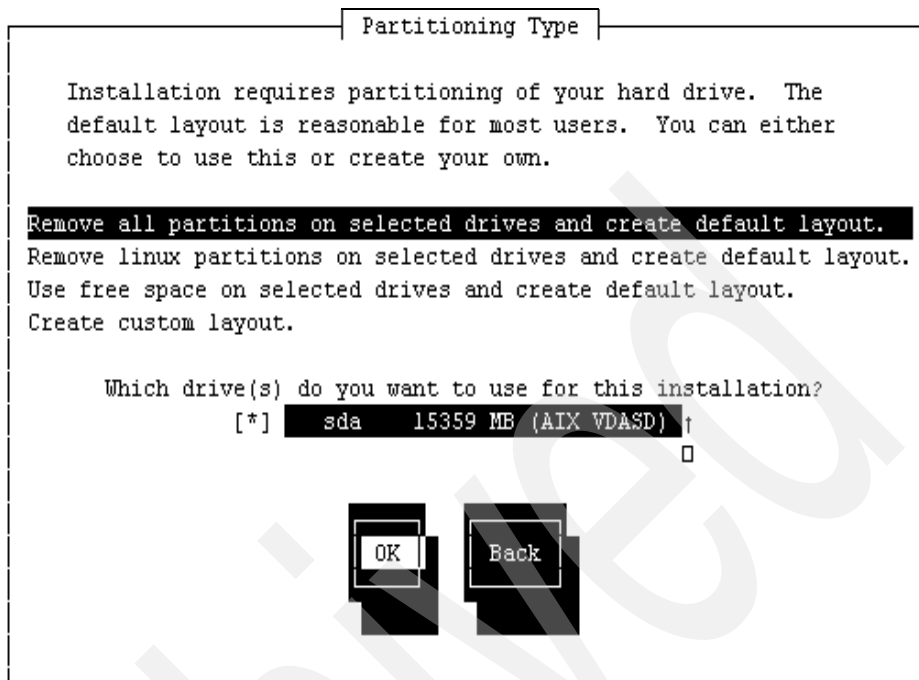

Figure 6-14 Select Partitioning Type panel
11. Select the disk partitioning type for this installation. In this scenario, we have selected the option **Remove all partitions on selected drives and create a default layout**. The drive we have selected is `/dev/sda`, which is the externally connected storage SAN disk that was partitioned using the IVM tools. See Figure 6-14 on page 296 as an example.